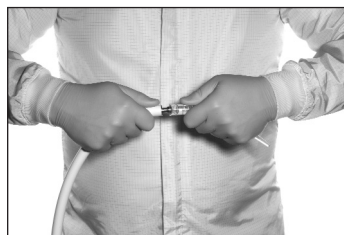

FIGURE 3. ATTACHMENT OF THE DETACHABLE TIP TO THE FIBER OPTIC CABLE.
3. Attach the Detachable Tip to the Fiber Optic Cable by grasping the tip at the socket end and the cable at the connector tip and pushing the tip socket onto the mating connector tip of the cable (see Figure 3). Do NOT lubricate the metal connector of the Fiber Optic Cable OR any part of the connection between the Fiber Optic Cable & Detachable Tip. The outside of the assembled System must be lubricated before passage. The connector on the 40 Fr. tip is different from the connector on the 50 Fr. and the 56 Fr.; however, the tips are attached in exactly the same way. The Fiber Optic Cable cannot be used on a patient without the Detachable Tip connected, as thermal injury will occur.